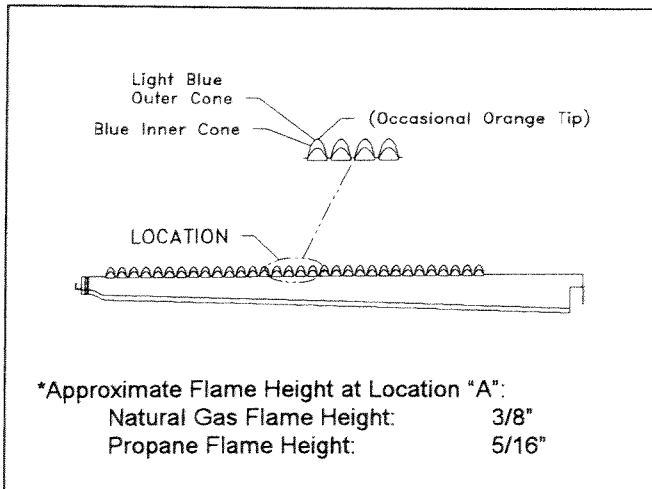

Figure 34.
- A. Furnace operates more efficiently with a taller burner flame at blower end of furnace. This design extracts more heat from heat exchanger. Figure 34 illustrates approximate burner flame height of first primary mantle at middle of burner.